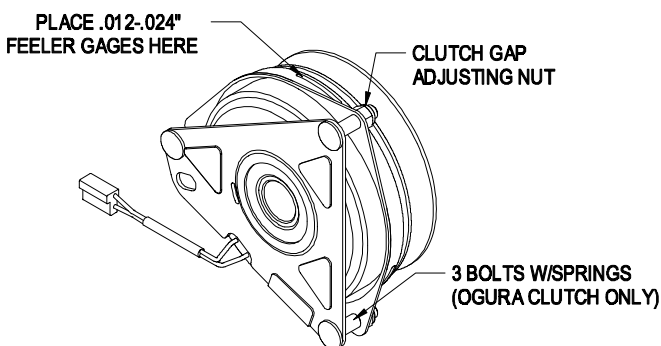

FIGURE 13
Determine the brand of clutch installed on your unit. Ogura clutches can be identified by 3 bolts with springs. See figure 13. Warner clutches do not have these bolts.
- c) Place .012-.024 inch feeler gages through each of the three clutch gap holes. If gap exceeds this range, tighten the three adjusting nuts until the proper gap is obtained (See Fig.13). The three clutch gap holes are located at the "nut side of the adjusting bolts. The adjusting bolts can be identified by the springs surrounding each bolt.
- c) Begin with either the left or right motion control lever. Move lever to the neutral position and pull lever back until the clevis pin (on arm below pivot shaft) contacts the end of the slot (just beginning to put pressure on spring), See Fig 13.